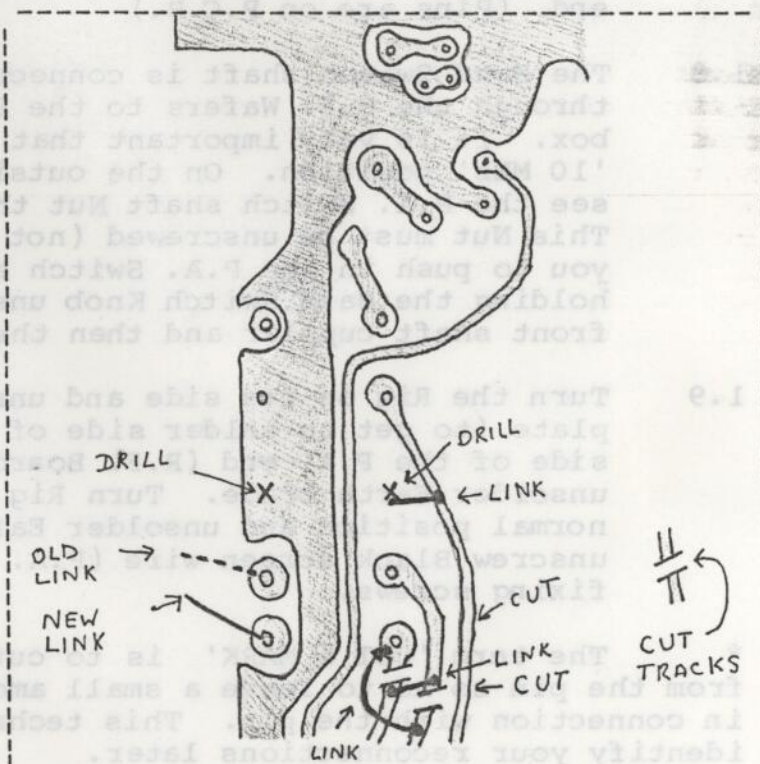

Figure 1
- 2.2 Locate RL02 and unsolder. Note the new (YX95D) Relay is not of the same pinning. Refer to Notes a to c and Figure 1 below and make the following mods to the P.C.B.
- The Relay coil pins are located in a different position so drill two 1.5 mill holes into the P.C.B. at positons x on diagram (Figure 1).
- The N.C. contacts on the old relay are the N.O. contacts on the new Relay and so you will have to cut P.C.B. tracks and make links as shown on diagram (Figure 1) and then fit new Relay.
- Check all connections to diagram (Figure 1).